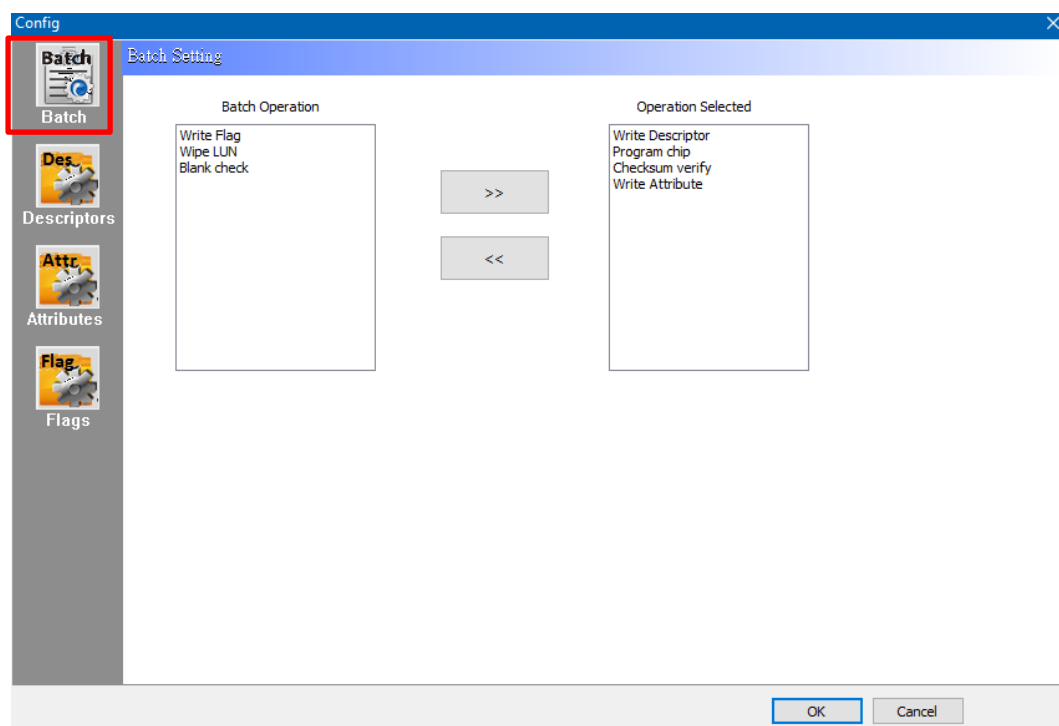

Fig. 5-18
**Note:** You can add Write Flag and Write Attributes before or after Wipe LUN/Blank Check/Program Chip/Checksum Verify. When executing the Attributes, it is recommended to arrange the Write Attributes to the last step (especially when setting the frequency clock bRefClkFreq of UFS), shown as Fig 5-18.